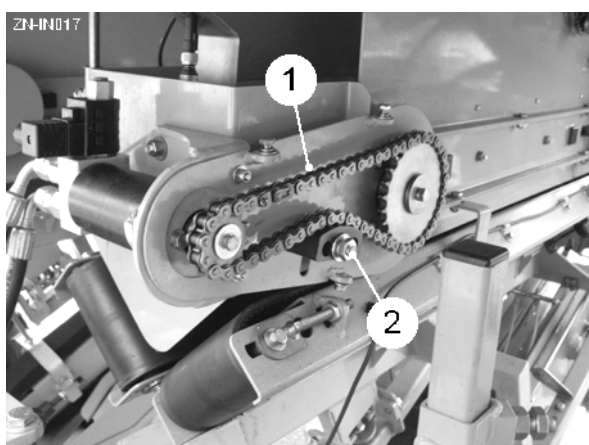

Fig 26
To tension the hopper belt drive chain (item 1, fig 26) reposition the nylon tensioner (item 2, fig 26). The tensioner will initially show fairly rapid wear but will settle down when the chain rollers rather than the chain side plates come into contact with the plastic.